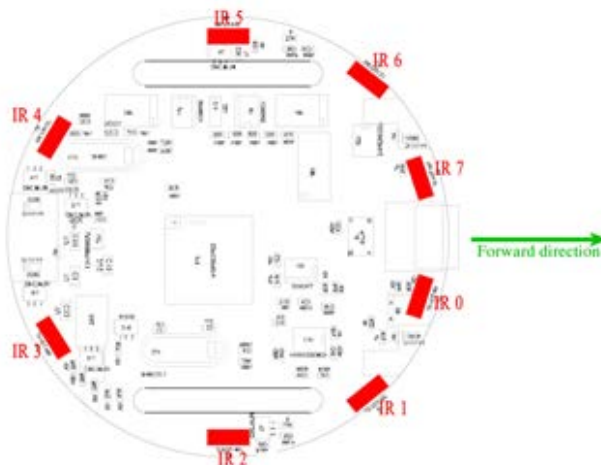

Figure 6: E-puck proximity sensors
Examine the *e-puck.c* code carefully: The distance sensors in the file correspond to those indicated in Figure 6. For example, `ps0` in the code corresponds to *IR0* in Figure 6, `ps1` in the code corresponds to *IR1* in the figure, etc. Note that sensor numbers increment going clockwise; `ps0` and `ps7` are at the front of the robot.
- I₁** (5): Modify *obstacle.c* so that your robot becomes capable of avoiding a wide variety of obstacles in different mazes. Start with lines 107-115. Here you can see that the current algorithm looks at the value of *ds_value[0]*, corresponding to IR 0 in *Figure 6*. Extend this approach to use both of the central proximity sensors on the front of the e-puck (i.e., both IR 7 and IR 0). Make sure you save your new controller code in *obstacle.c* and your world in *obstacle.wbt*.
- I₂** (10): Next, exploit all eight of the available proximity sensors (i.e., all eight values in *ds_value*). Test the performance of your obstacle avoidance algorithm. Try to keep your solution simple and reactive.
- Q₃** (5): What happens when the robot tries to avoid obstacles here? If your obstacle avoidance still works, what types of controllers might have trouble here? If it does not work, how could the controller be modified to work properly?
- I₄** (10): In the same way that you created the *obstacle.c* controller, now create a new controller named *u_obstacle.c* that allows the robot to escape from a U-obstacle (if it